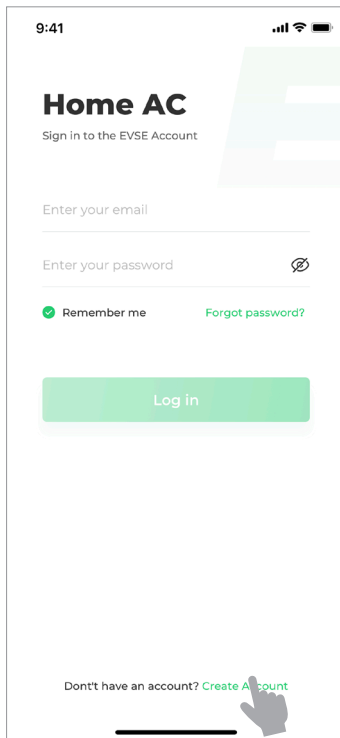

Fig. 6-1
1. Open the app. Select "Create Account" at the bottom of the screen. (See Fig. 6-1)